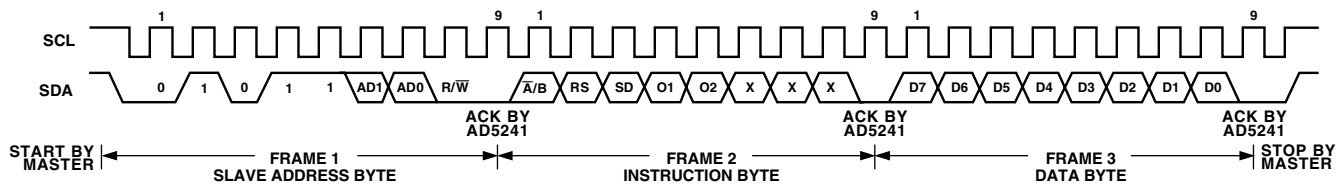
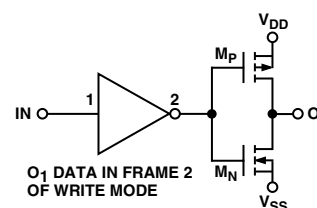

Figure 2. Writing to the RDAC Serial Register
Figure 7. Output Stage of Logic Output O_1
Referring to Figures 2 and 3, the first byte of AD5241/AD5242 is a Slave Address Byte. It has a 7-bit slave address and a R/ $\overline{W}$ bit. The 5 MSBs are 01011 and the following two bits are determined by the state of the AD0 and AD1 pins of the device. AD0 and AD1 allow users to use up to four of these devices on one bus.
1. The master initiates data transfer by establishing a START condition, which is when a high-to-low transition on the SDA line occurs while SCL is high, Figure 2. The following byte is the Slave Address Byte, Frame 1, which consists of the 7-bit slave address followed by an R/ $\overline{W}$ bit (this bit determines whether data will be read from or written to the slave device).
bits are O_2 and O_1 . They are extra programmable logic output that users can use to drive other digital loads, logic gates, LED drivers, and analog switches, etc. The three LSBs are DON'T CARE. See Figure 2.
- After acknowledging the Instruction Byte, the last byte in Write mode is the Data Byte, Frame 3. Data is transmitted over the serial bus in sequences of nine clock pulses (eight data bits followed by an "Acknowledge" bit). The transitions on the SDA line must occur during the low period of SCL and remain stable during the high period of SCL, Figure 2.
- When all data bits have been read or written, a STOP condition is established by the master. A STOP condition is defined as a low-to-high transition on the SDA line while SCL is high. In Write mode, the master will pull the SDA line high during the tenth clock pulse to establish a STOP condition (see Figure 2). In Read mode, the master will issue a No Acknowledge for the ninth clock pulse (i.e., the SDA line remains high). The master will then bring the SDA line low before the tenth clock pulse which goes high to establish a STOP condition (see Figure 3).
AD5241/AD5242 allows user to read back the RDAC values in Read Mode. However, for AD5242 dual channel device, the channel of interest is the one that is previously selected in Write Mode. In the case that users need to read the RDAC values of both channels in AD5242, they can program the first subaddress in the Write Mode and then change to the Read Mode to read the first channel value. After that, they can change back to the Write Mode with the second subaddress and finally read the second channel value in the Read Mode again. Note that it is not necessary for users to issue the Frame 3 Data Byte in the Write Mode for subsequent readback operation. Users should refer to Figures 2 and 3 for the programming format.
AD5241/AD5242 features additional programmable logic outputs, O_1 and O_2 , which can be used to drive digital load, analog switches, and logic gates. The logic states of O_1 and O_2 can be programmed in Frame 2 of the Write Mode (see Figure 2). Figure 7 shows the output stage O_1 where the logic levels are equal to the supply levels and the current driving capability reaches tenths of mA.